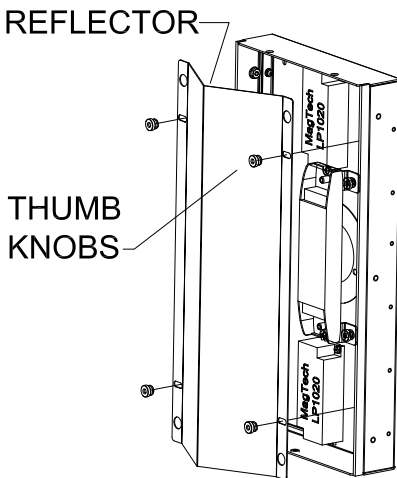

Figure 2
Step 2 Remove the four thumb screws that retain the internal reflector to provide access to the mounting locations and internal electrical components. (See Figure 2)
Step 7 Install the reflector, be careful not to damage the wire connectors or insulation on wire leads that provide power to the LED modules. Secure reflector into position with thumb knobs. (See Figure 2)